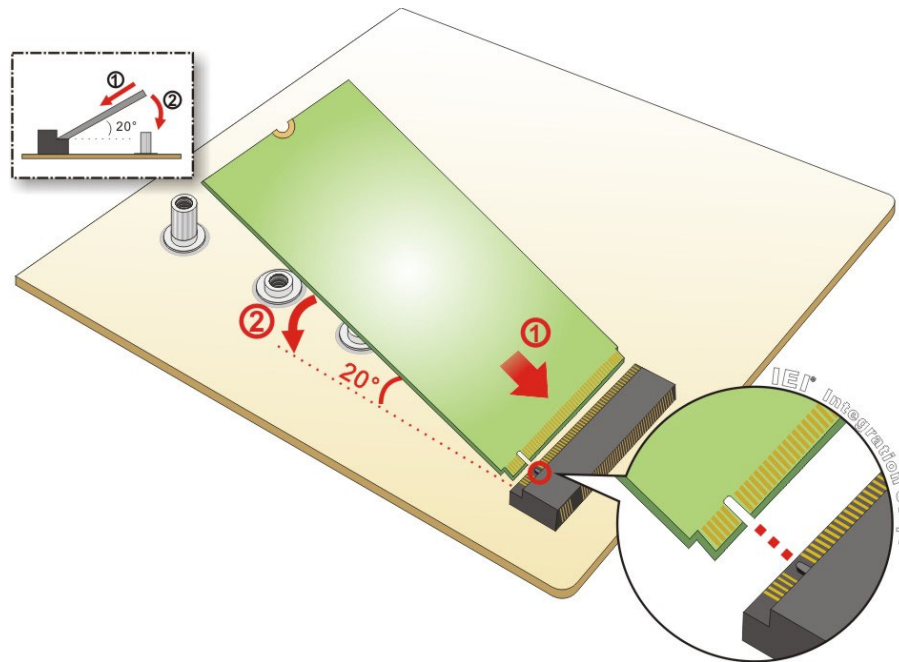

Figure 4-3: Inserting the M.2 Module into the Slot at an Angle
Step 3: Line up the notch on the module with the notch on the slot. Slide the M.2 module into the socket at an angle of about 20° (**Figure 4-3**).